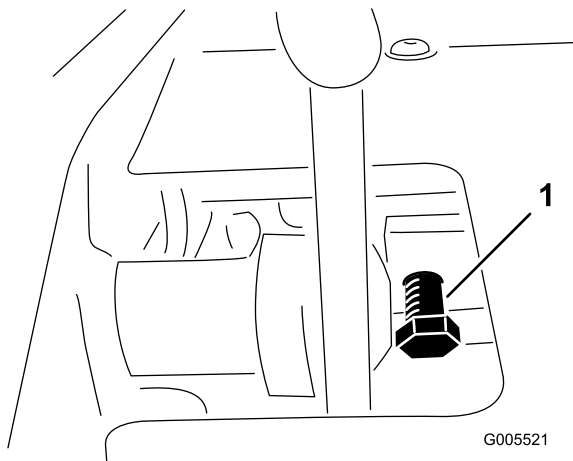

Figure 57
1. Loosen jam nut on pedal lock capscrew (Figure 57).